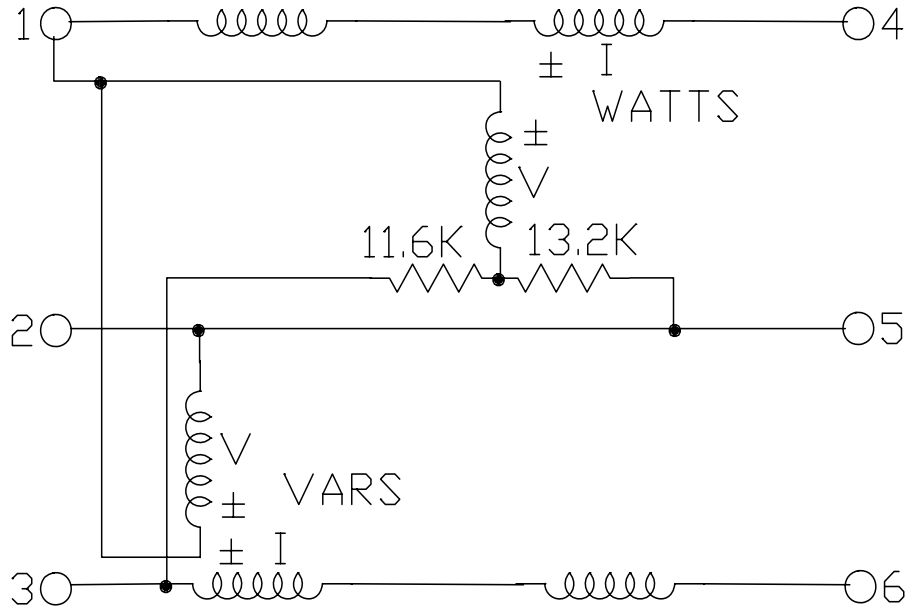

Figure 1: Three Phase Watt/Var Meter
- (4) One watt-var meter, three phase. (See Figure 1 on page 7)